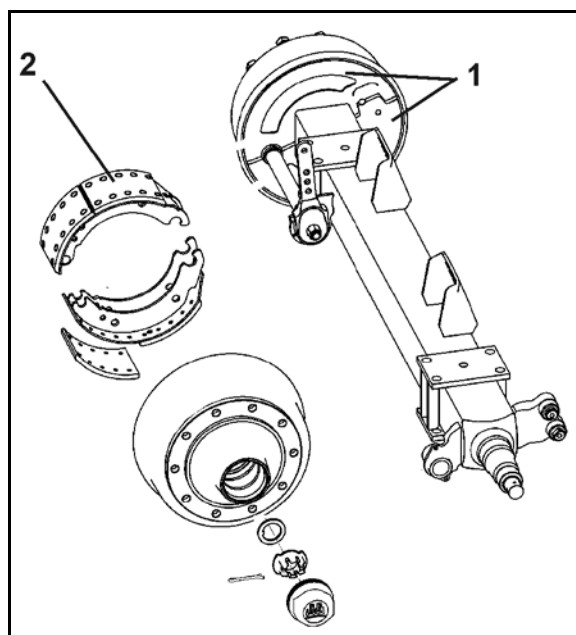

Fig. 167
1. Unscrew the two cover plates (Fig. 167/1) on the inside of the brake drum.
Dirt entering the drums may be deposited on the brake pads (Fig. 167/2) and thus die appreciably reduce brake performance.